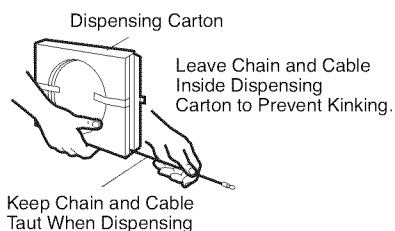

Figure 1
2. Connect the cable to the retaining slot on the trolley, as shown (Figure 1):
- To tighten the chain, turn outer nut in the direction shown (Figure 1).